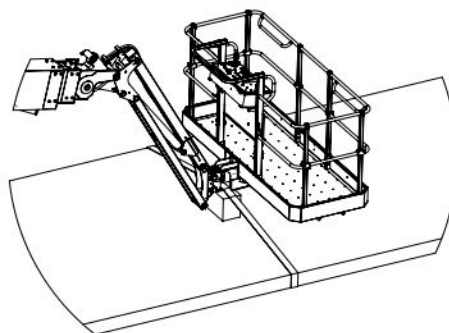

Figure 3-6. Platform Tie-down
8. Place block underneath platform rotator and gently lower rotator onto block and secure in place. Strap must be secured underneath hoses and cables to avoid damage to MEWP (refer to Figure 3-6). Do not use excessive downward force when securing platform.